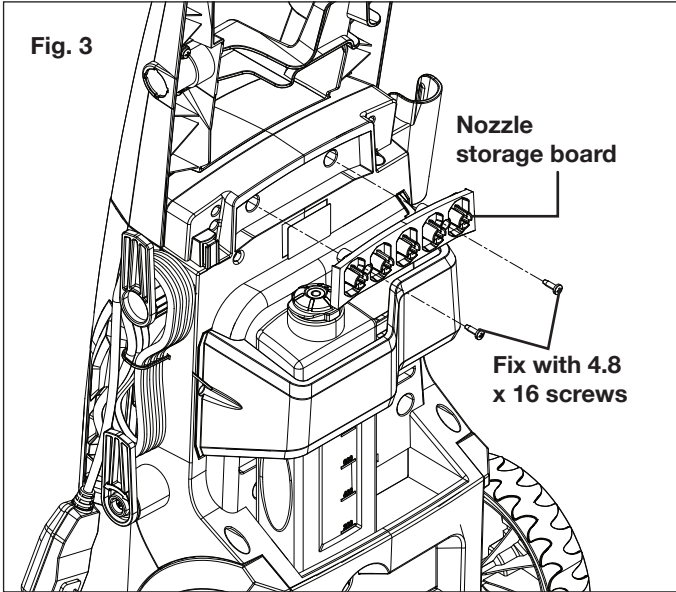

Fig. 3
3. Put on the nozzle storage board in position and secure with two 4.8 x 16 screws (Fig. 3).